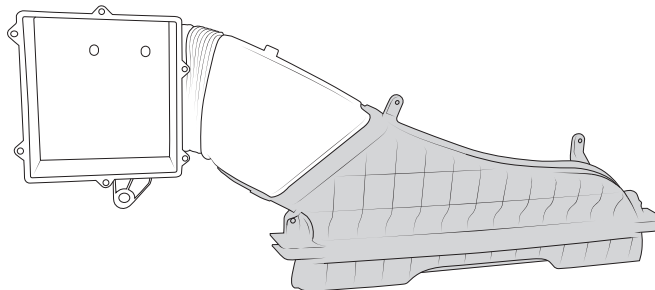

Figure 4
- 8. Remove the factory intake components shown below by removing 2 bolts, SAVE the shaded portion, this will be re-installed (fig. 4). SAVE the three rubber grommets from the lower factory lower airbox.
11. Reinstall the component saved in step 8 under truck prep figure 4.